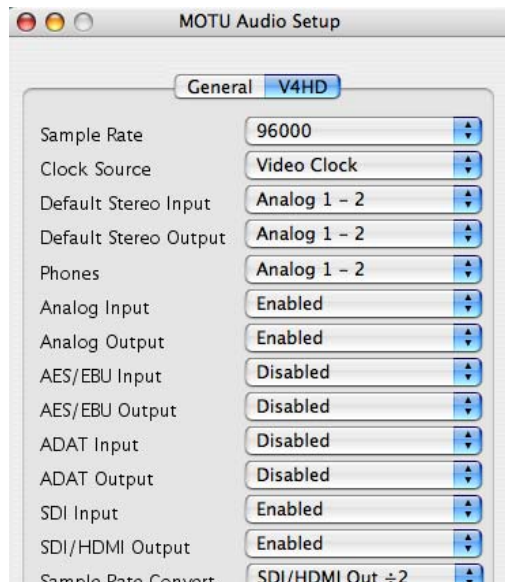
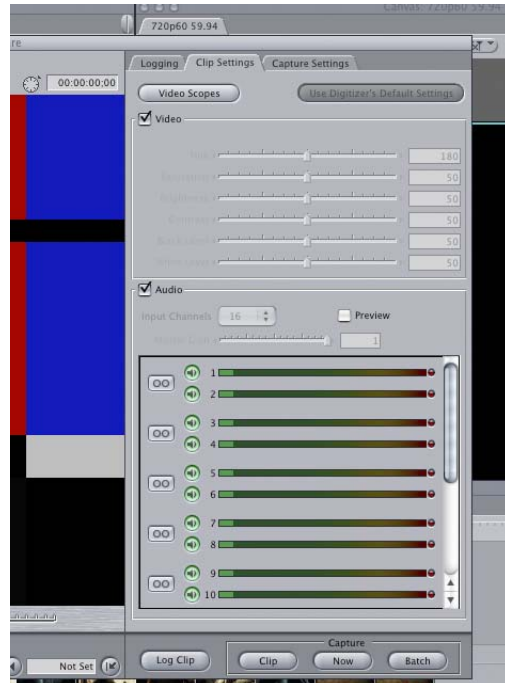

Figure 7-8: The top to bottom order of the audio banks listed in MOTU Audio Setup is how they are ordered in Final Cut Pro.
Figure 7-9: Clip Settings tab.
In the above example (Figure 7-8), the analog and SDI banks are enabled. This means that the V4HD will supply 16 channels of audio input and output to Final Cut Pro. Channels 1-8 are the analog ins and outs; channels 9-16 are the SDI ins and outs. If the AES/EBU bank is enabled, channels 9-16 would be the AES/EBU channels. It is a good idea to only enable the audio banks you are using.
- 1** Enable and disable the V4HD's four audio banks as desired (Figure 7-8).
The channels in the list (Figure 7-9) correspond to the V4HD audio banks currently enabled in MOTU Audio Setup (Figure 7-8), as explained earlier in “Choosing audio banks”.
- 3** Use the arm/disarm buttons next to each channel number (Figure 7-9) to choose which V4HD audio inputs to record.
- 4** Disable the *Preview* check box in the Audio section (Figure 7-9).